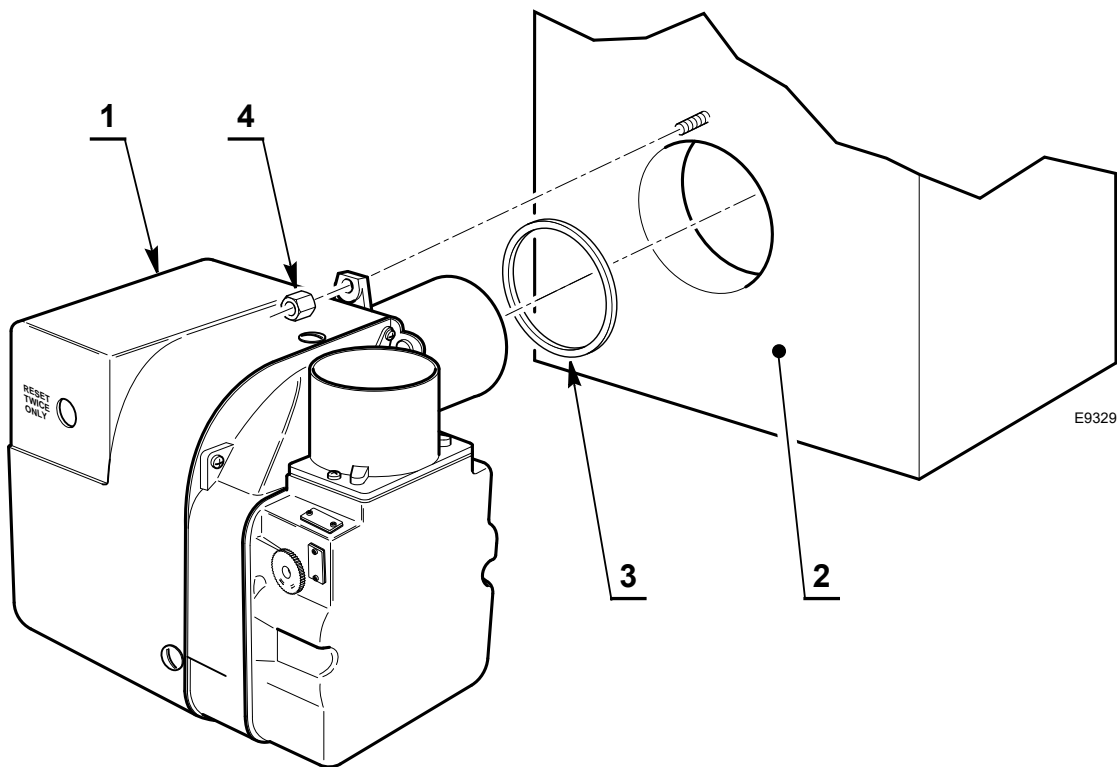

Fig. 6
- Fix the burner 1) to the appliance 4) using the supplied nut 4) with the gasket 3) in-between as in Fig. 6.